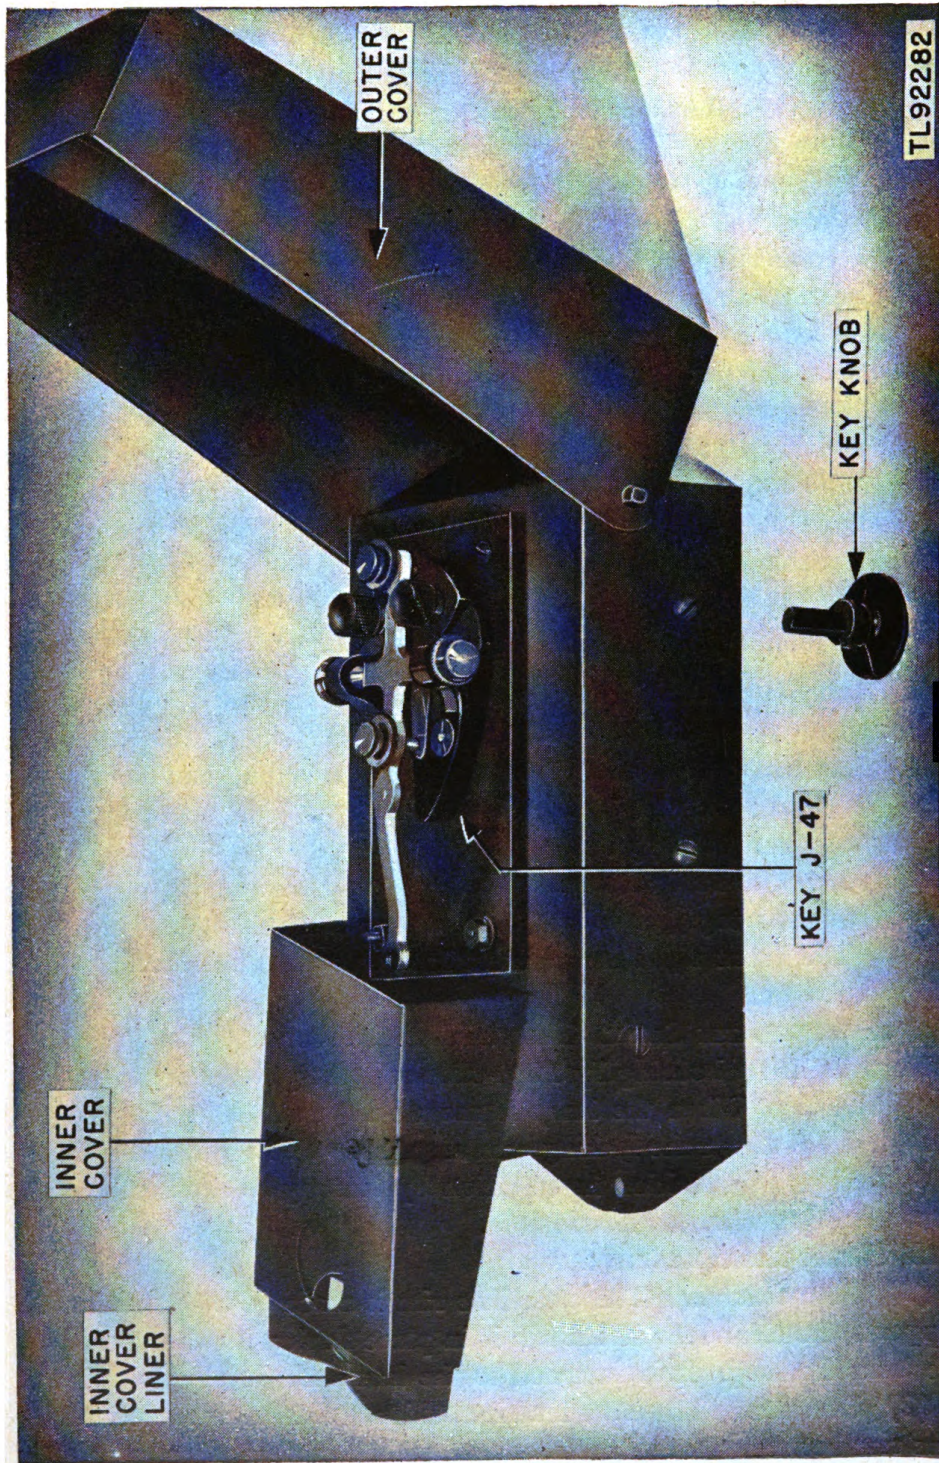

Figure 4. Key box, cover open.
(1) *Outer key cover* (fig. 4). The outer cover completely covers the key box. It is hinged to the rear of the key box by two cotter pins. It protects Key J-47 when the equipment is not in operation. The catch spring on the front of the key box holds the outer key cover closed.